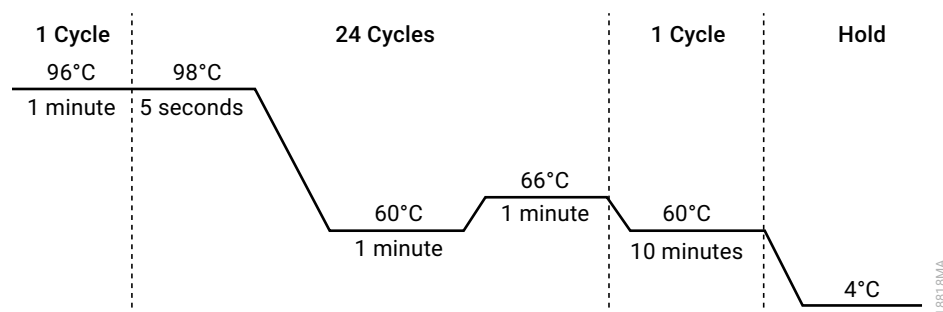

Figure 5. Thermal cycling protocol for the ProFlex® PCR System.
2. Select and run the recommended protocol provided below and in Figure 5. The total cycling time is approximately 75 minutes.